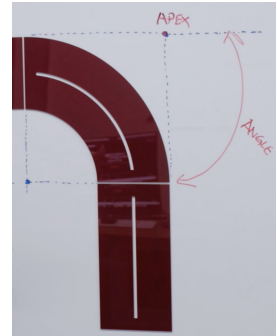

Figure 1.2
- **Bend Angle:** The bend angle is measured between the outer faces of the flanges, not the inside (see Figure 1.2).